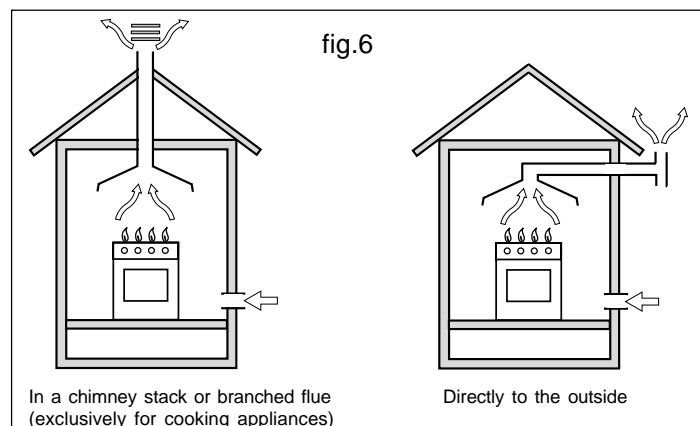

fig.6
- The appliance must discharge combustion products into a special hood, which must be connected to a chimney, flue pipe or directly to the outside (fig.6).